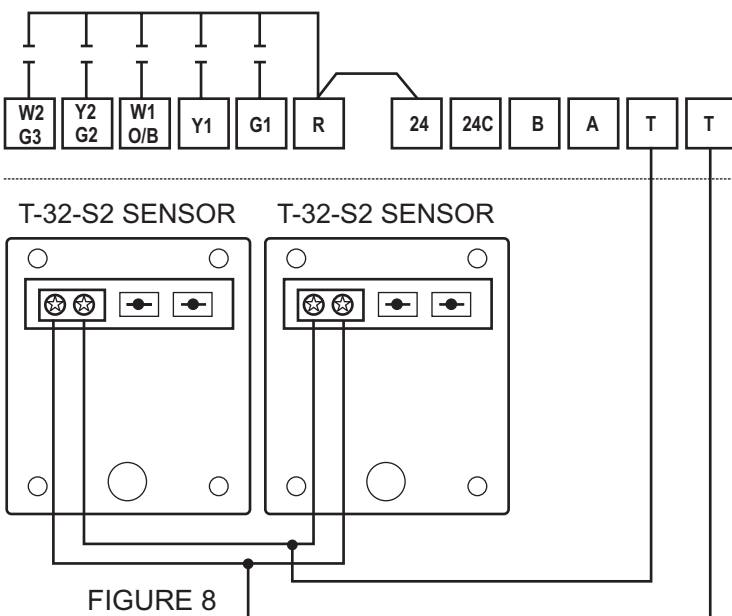

FIGURE 8
Multiple sensors can be connected to the 'T' and 'T' terminals if temperature averaging is required with or without the sensor in the thermostat. The total value of remote sensors wired in series/parallel must equal 10kΩ @ 77 F. The onboard sensor is not part of the equation. Figure 8 shows (2) T-32-S2 sensors used for averaging.